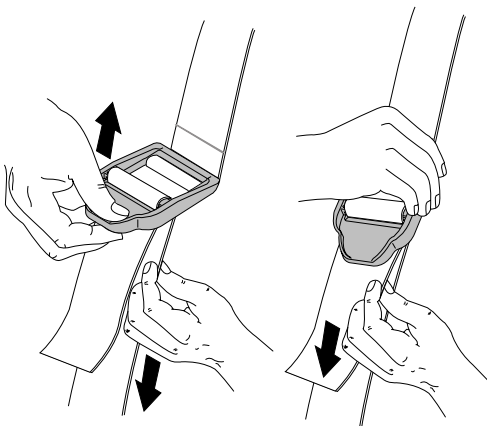

Fig. 3
4. While standing in the operating position adjust length to fit the operator's size. Pull tab to lengthen, pull strap to shorten (Fig 3).